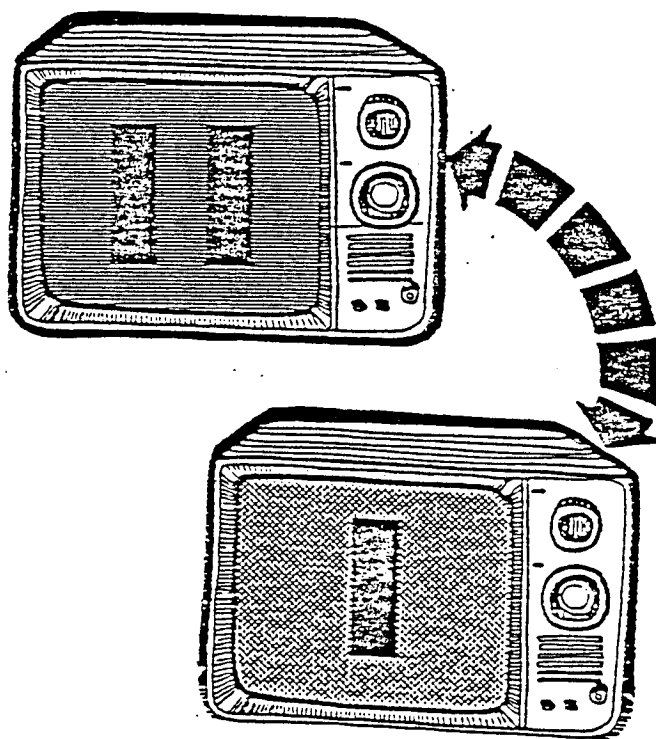

Figure 3-12. Audio Tone Test Screens
- Format: The VCS unit should be in the initialized mode. Move the Right Difficulty switch to the "B" position. The test displays two alternating patterns on the screen (as shown in Figure 3-12) while two alternating tones are heard. The tones change in sync with the screen. This test pattern continues for one full cycle after the Right Difficulty switch has been returned to the initialized position.